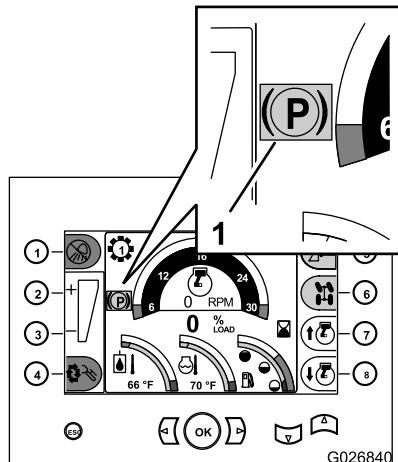

Figure 12
**Note:** The red parking brake indicator will appear in the command center display (Figure 12).
- If you stop the engine without setting the parking brake, the machine will set the parking brake and the yellow parking brake indicator will appear in the command center display (Figure 12).